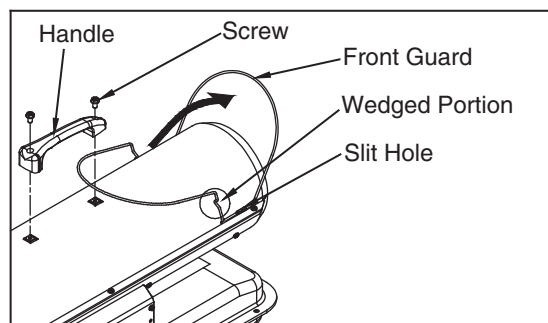

Figure 6. Assembling Handle
- 2) Align the holes in the upper housing with two mounting holes on the handle as shown in Figure 6.